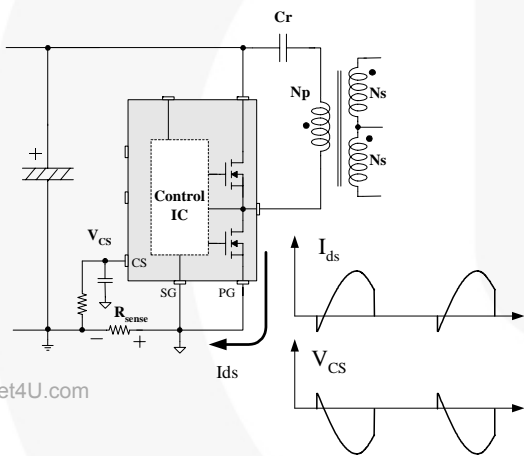
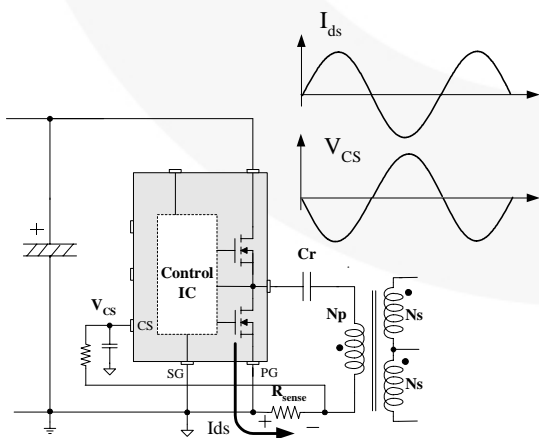

Figure 25. Half-wave Sensing
Figure 26. Full-wave Sensing
**Current Sensing Using Resistor:** FSFR-series senses drain current as a negative voltage, as shown in Figure 25 and Figure 26. Half-wave sensing allows low power dissipation in the sensing resistor, while full-wave sensing has less switching noise in the sensing signal.